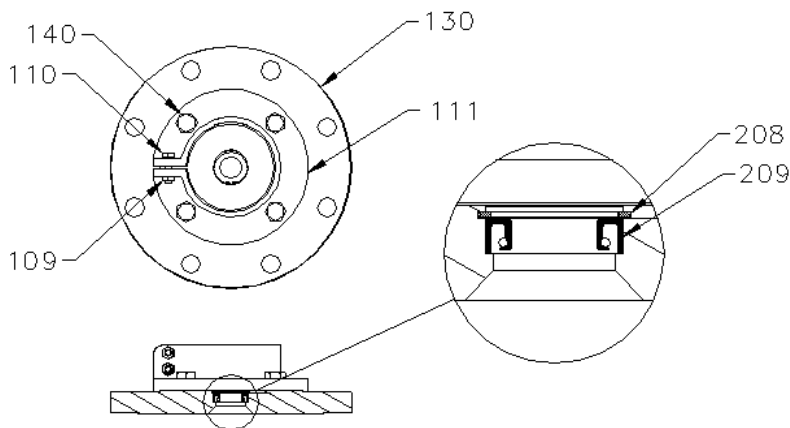

FIGURE 6
2.8 "L" Units – Closed Tank, Flange Mounted Lip Seal Module - The mixer housing module mounts in the bore of the Pedestal (111) and is secured by tightening the two hex head cap screws (110) and hex nuts (109). The pedestal (111) bolts to the mounting flange (130) with four hex head cap screws (140). Tank contents are sealed off by the flange mounted lip seal (209) which is retained by retaining ring (208). Refer to Figure 6.